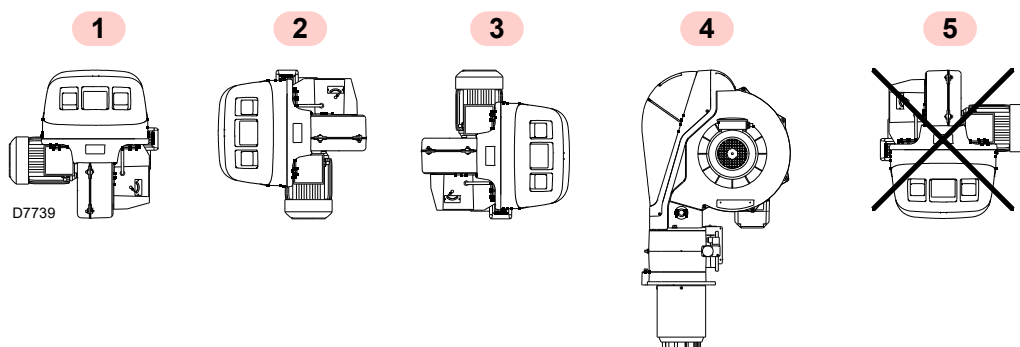

Fig. 12
- The burner is designed to operate only in positions **1**, **2**, **3** and **4** (Fig. 12).